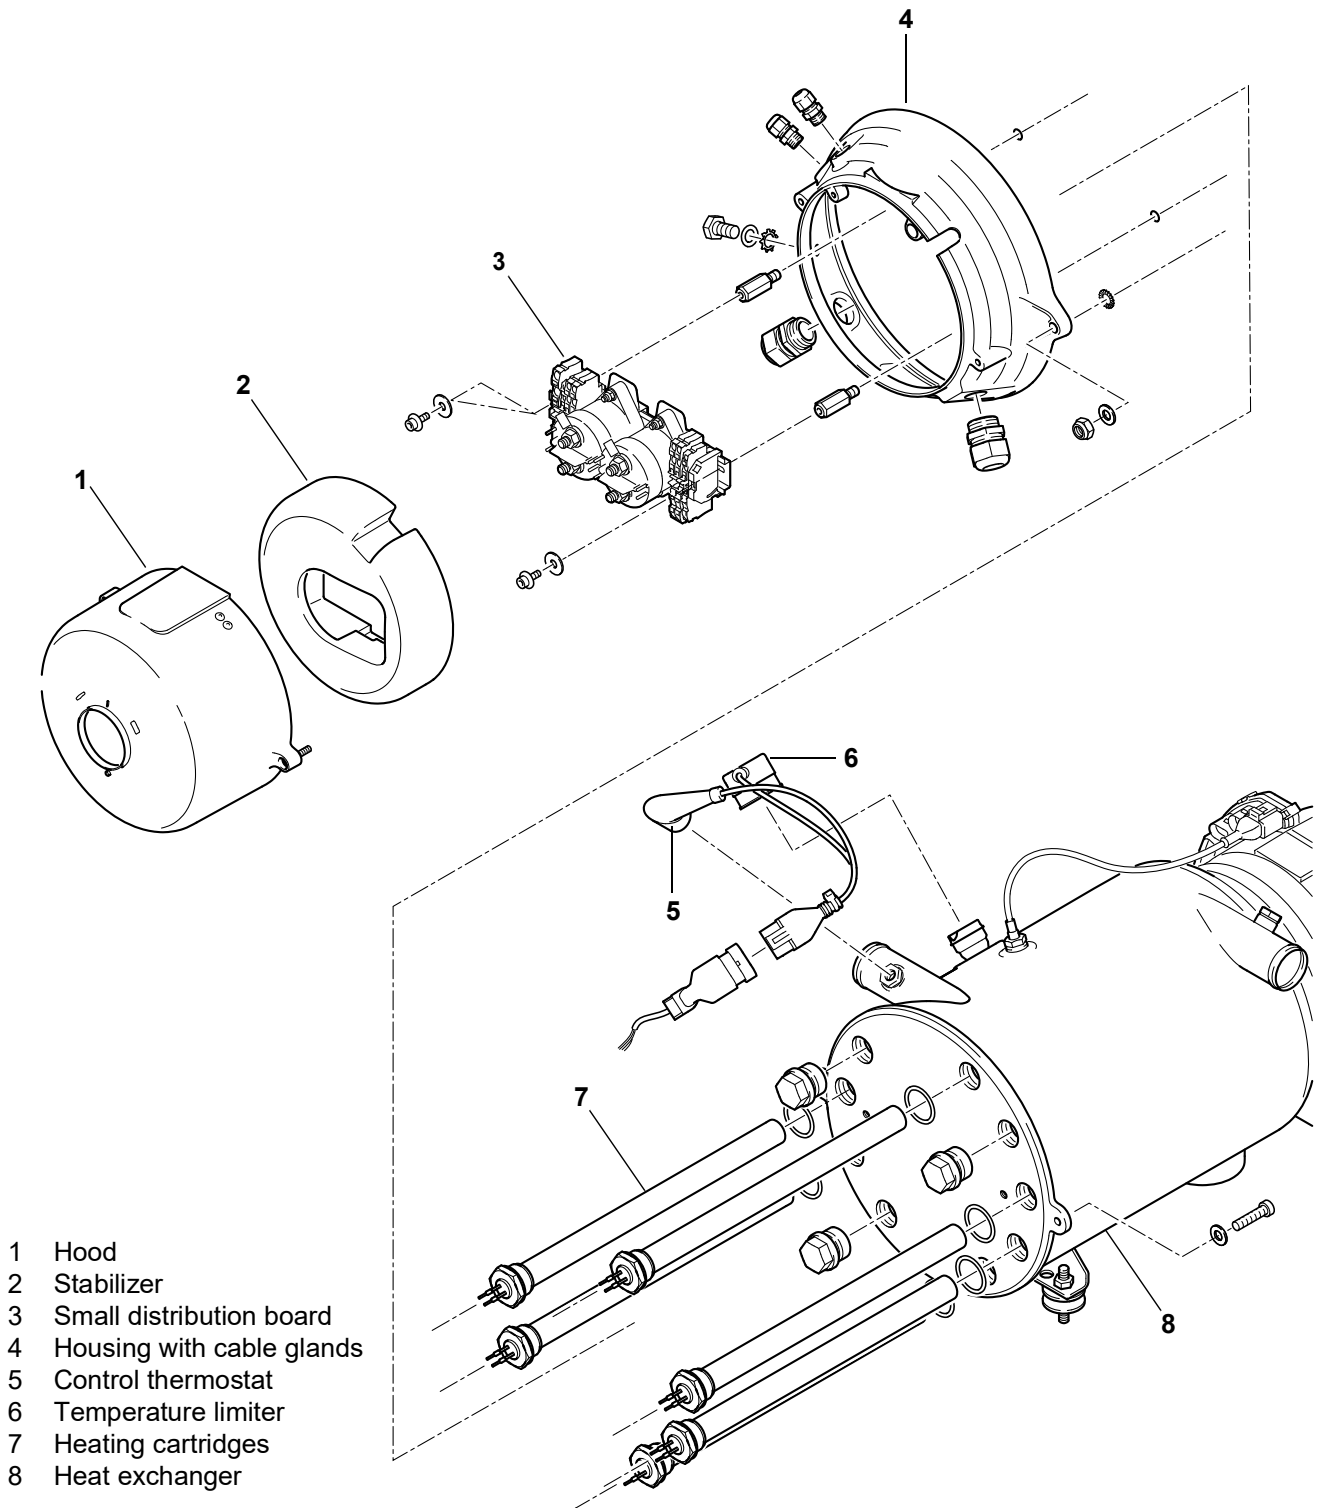

Fig. 302 HV control head / Small distributor board
The AC/DC control head (see Fig. 302) consists of an aluminum die-cast ring as housing (4) and the hood (1). Inside is a small distribution board (3) behind a stabilizer (2). The housing (4) is screwed to the heat exchanger (8).
The small distribution board (3, Fig. 302) includes the components required for the electrical part of the heater which are mounted on a 35mm top hat rail. The top hat rail is attached to the heat exchanger (8) via stud bolts.